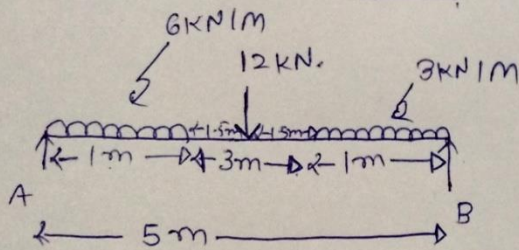

Fig 3
Q.4 (a) For beam given in FIG 3 find calculate support reactions draw Shear force and bending moment diagrams. **03**